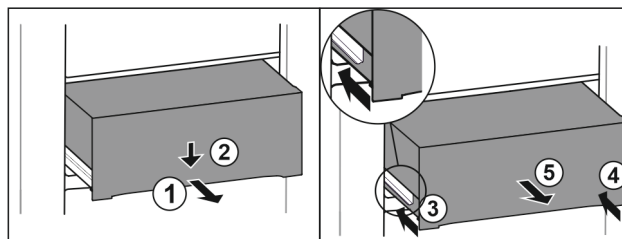

Fig. 136
- Pull out drawer half-way. Fig. 136 (1)
- Push the drawer down at the front. Fig. 136 (2)
- Push the left rail in by about 2 cm. Fig. 136 (3)
- Push the right rail in by about 2 cm. Fig. 136 (4)
- Remove drawer to the front. Fig. 136 (5)